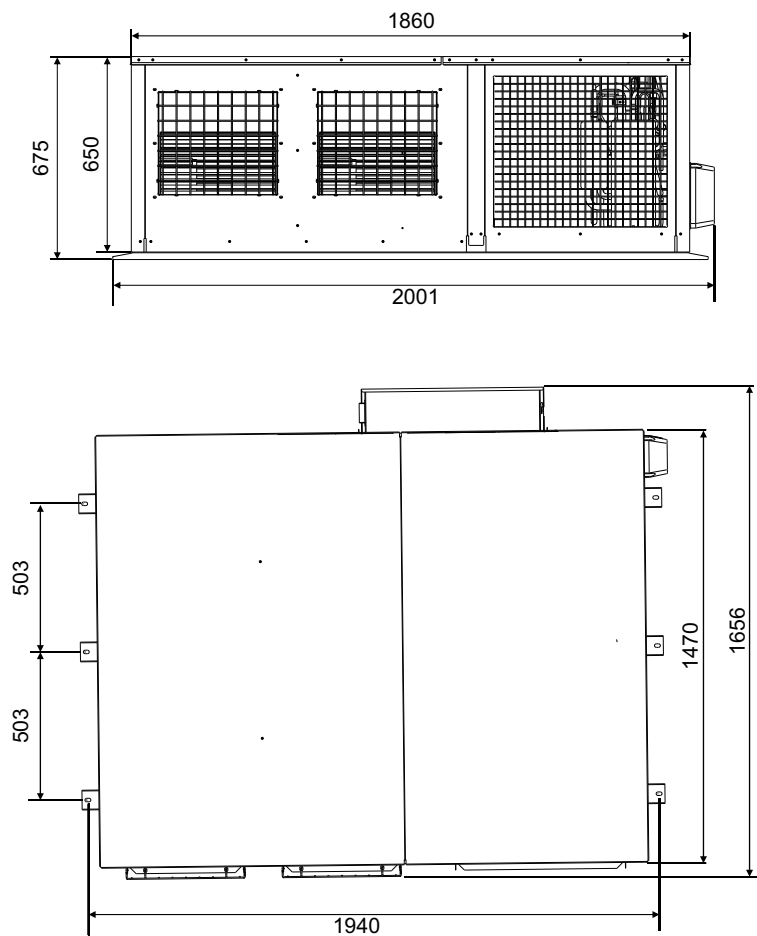

Fig. 3-2 Dimension of Outdoor Unit
2. Fig. 3-2 is applicable for models of MVH-H224C/DGN1